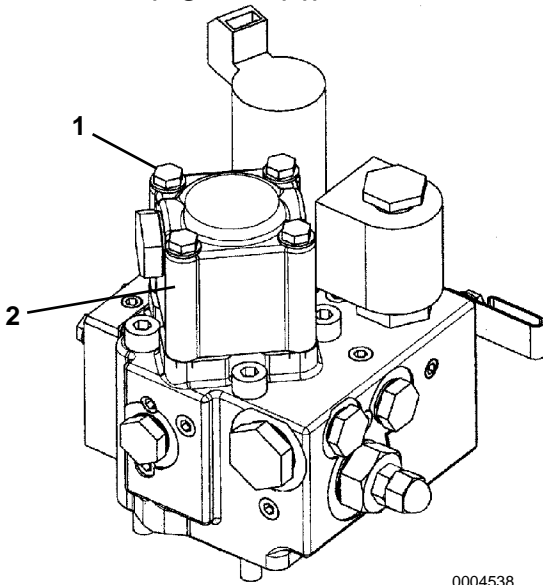

Figure 6
1. Remove four mounting bolts (Figure 6, (1)) from electric trolling valve (Figure 6, (2)).